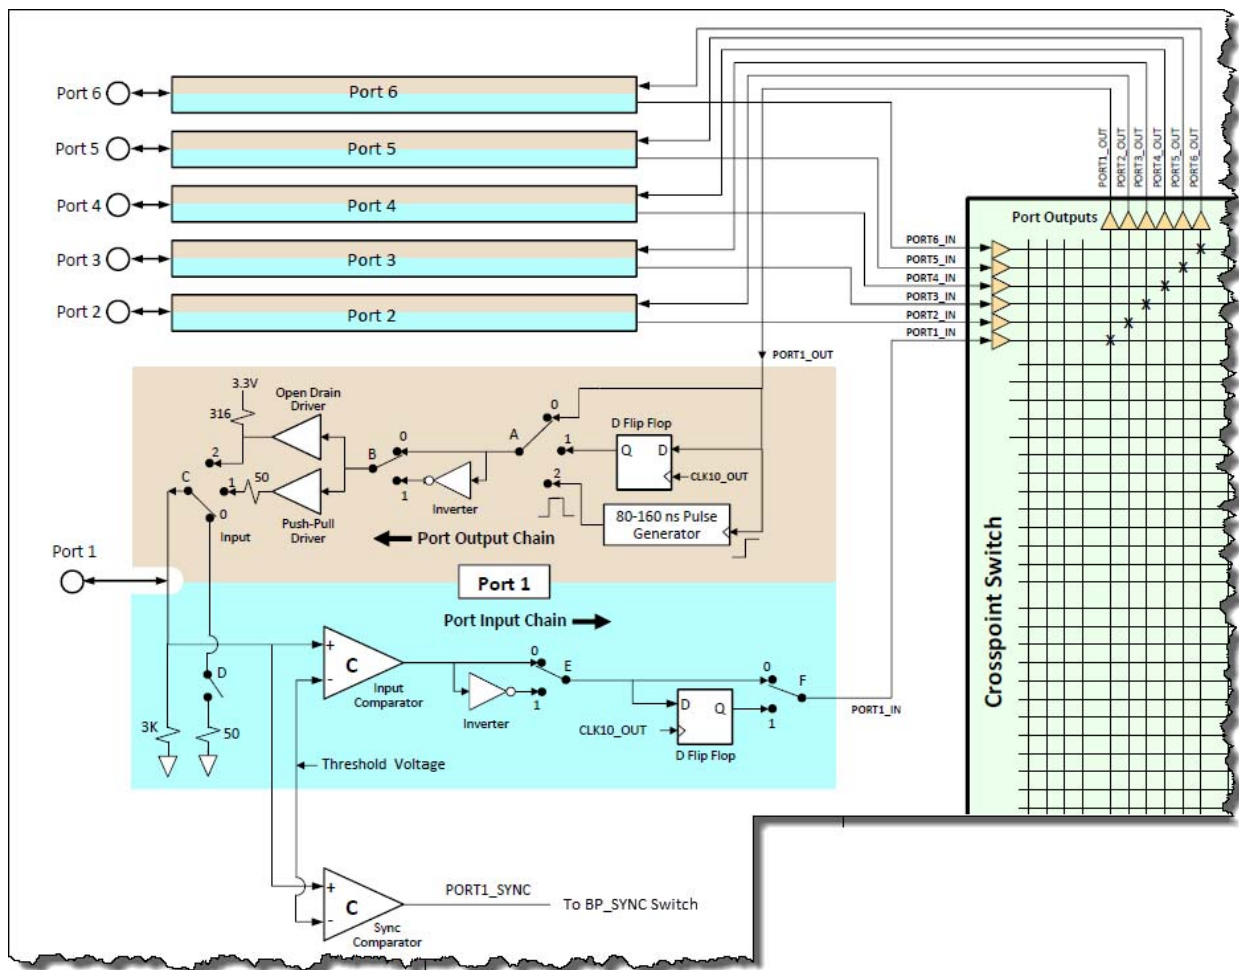

Figure 10 Port 1 Detail (other ports are identical except they do not have the Sync Comparator)
- Termination impedance of 3000 Ω (default) or 50 Ω . This is shown symbolically as Switch D in Figure 10.
- Whether or not the input signal is inverted. This is shown symbolically as Switch E in Figure 10. Default: non-inverted.
- Whether or not the input signal is synchronized with the CLK10_OUT 10 MHz reference clock before going to the Crosspoint Switch. Synchronization is accomplished with the D Flip Flop shown in the diagram. Switch F in Figure 10, symbolically shows the selection of synchronized or not synchronized. Default: not synchronized.
- The port output state, whether the output is enabled or disabled. This is shown symbolically as Switch C in Figure 10. Default: port configured as input.
- Whether or not to invert the signal before outputting the signal. This is shown symbolically with an inverter and Switch B in Figure 10. Default: non-inverted.
- The source of the output signal from the Crosspoint Switch. Possible sources are: direct pass-through (no change to the signal), output clocked out by 10 MHz clock (SyncToClock), or generates a pulse on each rising edge of Crosspoint Switch output signal (PulseGeneration). These are shown symbolically as Switch A in Figure 10. Default: pass-through.
The following table lists the symbolic switches and the generalized software call name used to program the ports. Refer to Figure 10 on page 118 for the switches and hardware.